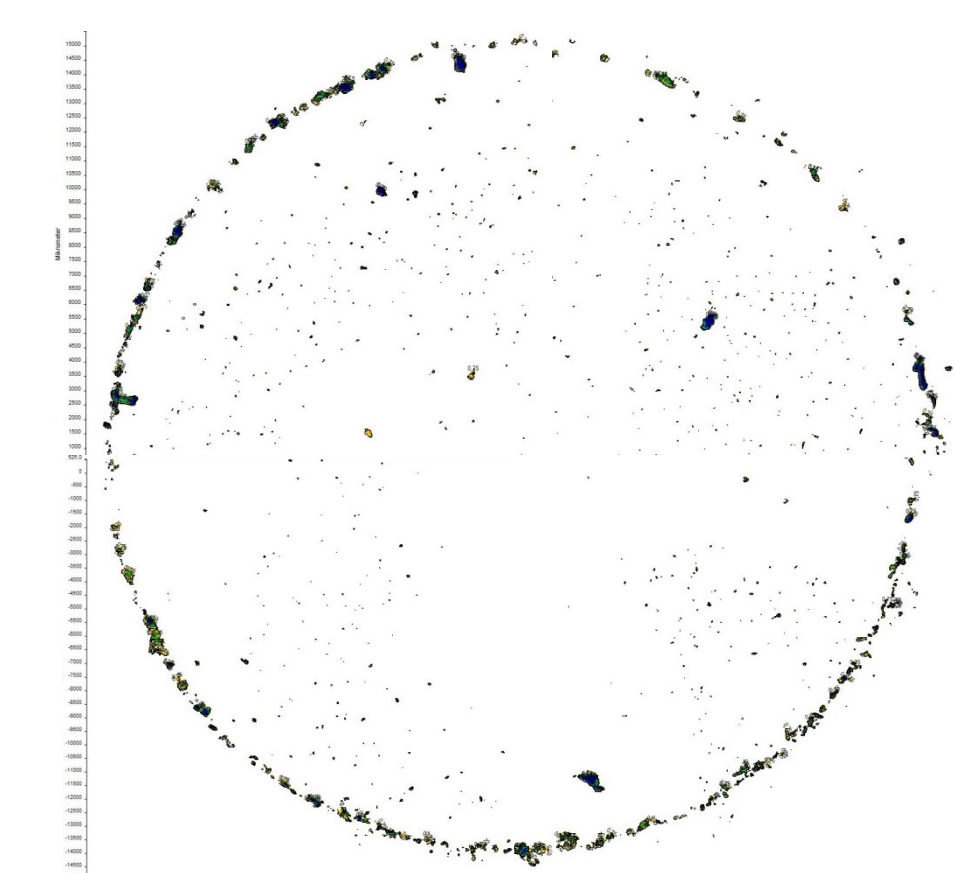

Fig. 3: Graphical result of FT-IR imaging, particles shown have high similarity to polypropylene (PP) plastics, and are counted via software.
2. Calculate correlation with various plastic materials (PE, PP, PA...) on FT-IR image, display spots with correlation above threshold (e.g. > 75%, Fig.3)